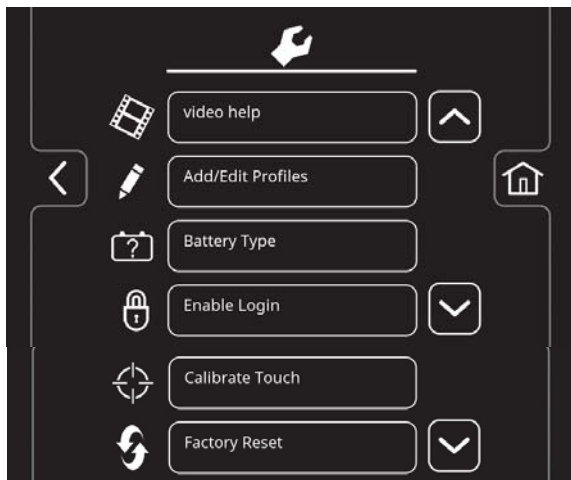

FIG. 161
- The machine's setting screen provides access to the following menu (Figure 161).